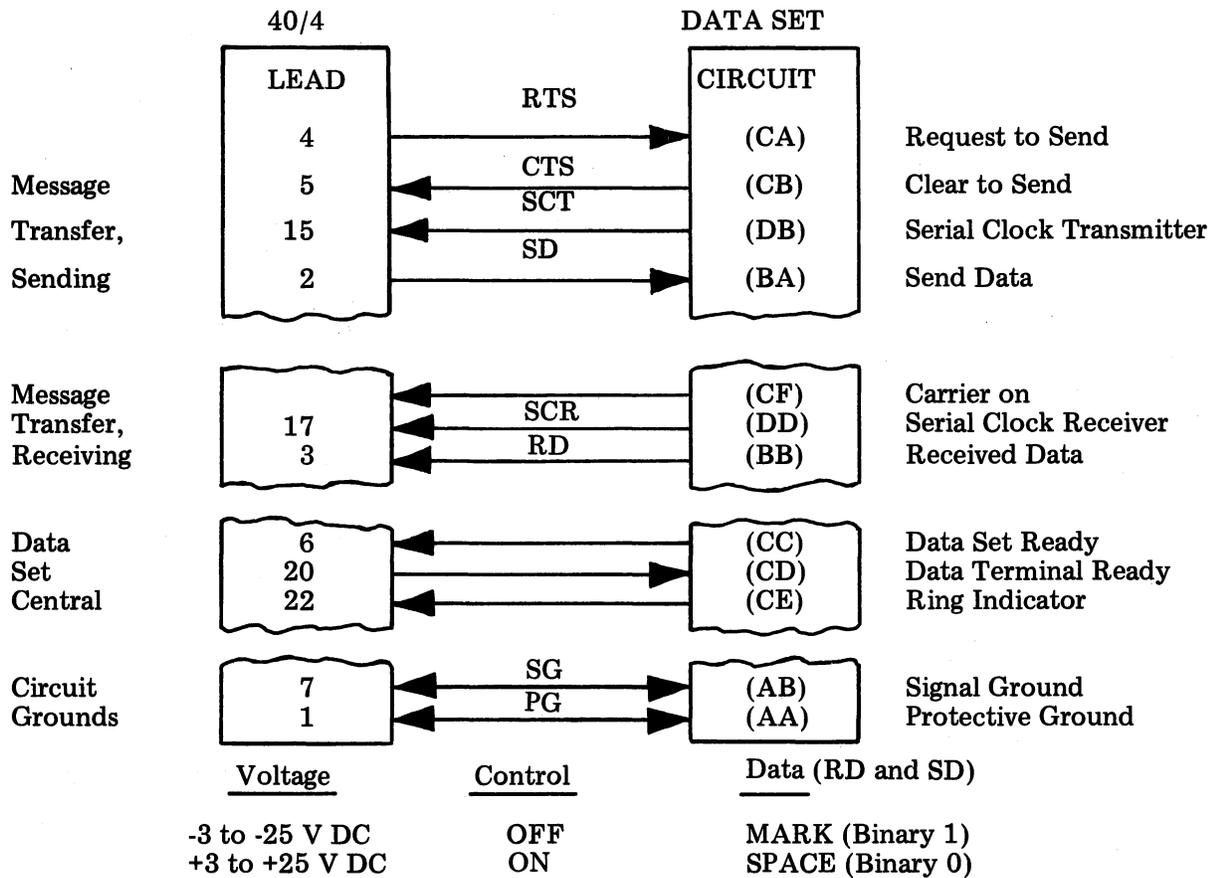

Fig. 8—EIA Leads
5.03 Interface to the station data set meets EIA standards RS-232C. Leads used in 40/4 are indicated in Fig. 8.